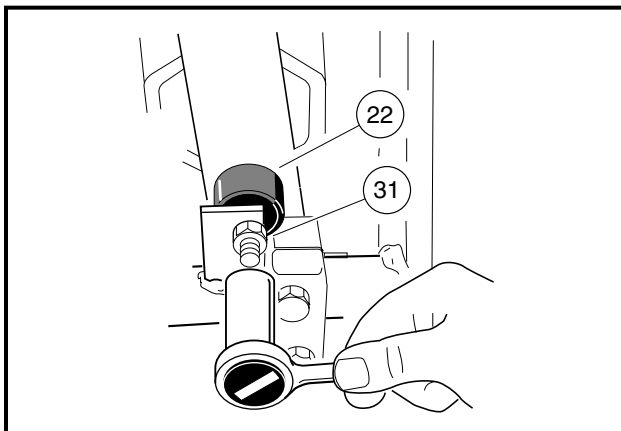
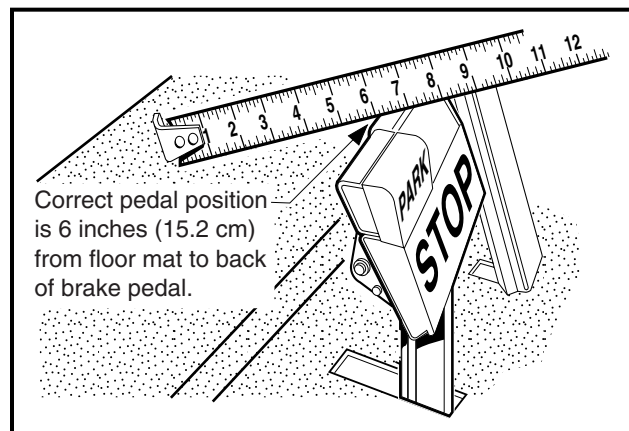

Figure 5-13 Brake Pedal Height Adjustment
Figure 5-14 Brake Pedal Height Measurement
- 2.3. Loosen the brake stop jam nut (31), then relieve pedal pressure on the stop by pushing down slightly on the pedal. Next, adjust the brake stop bumper (22) up or down (**Figure 5-13, Page 5-12**). Adjusting the bumper upward decreases distance between pedal and floorboard. Adjusting the bumper downward increases distance between pedal and floorboard. Proper brake pedal height is 6 inches (15.2 cm) (**Figure 5-14, Page 5-12**).
- 2.4. Tighten the jam nut (31) to 8 ft-lb (9.5 N-m) (**Figure 5-13, Page 5-12**).
- 3.1. Measuring perpendicular from the floorboard to the back of the brake pedal, press the brake pedal and measure the distance that the pedal moves before all of the slack is taken out of the brake cables (**Figure 5-14, Page 5-12**).